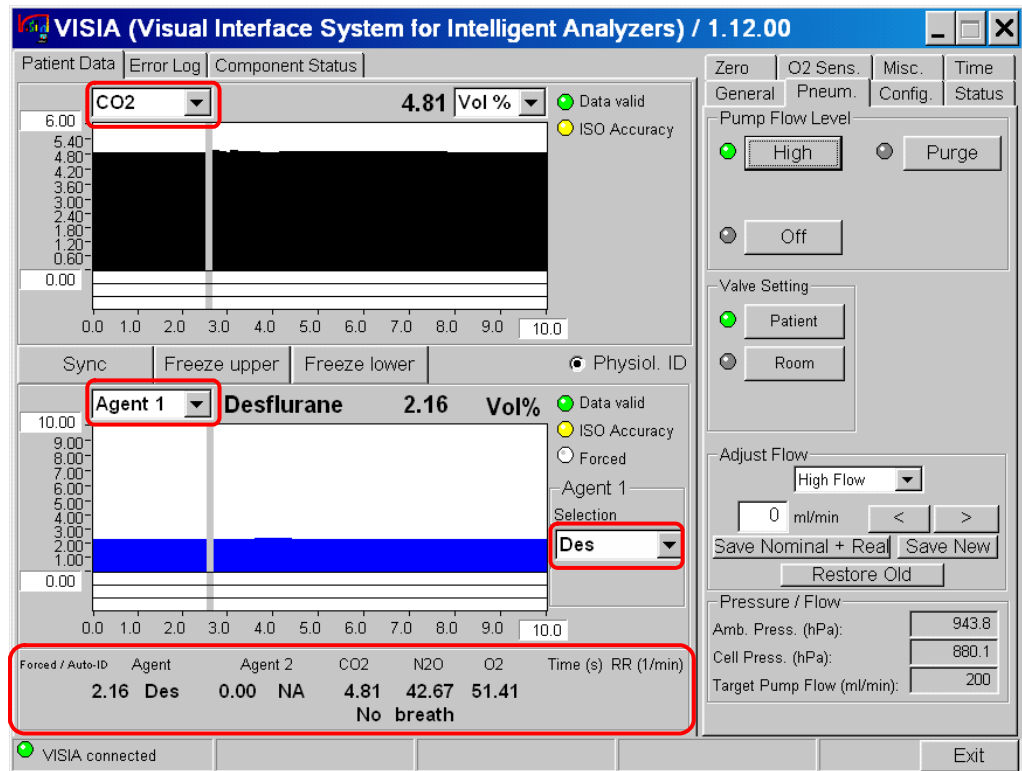

Figure 13 Patient Data Window during Gas Calibration Test
The gas analyzer should run for at least 6 minutes until the Data soft-LED in the Patient Data reads *Data Valid* before continuing with the following calibration procedures. This is to allow the module to reach ISO accuracy (see Figure 13). Use the M2211A Flow Regulator when performing the gas calibration test. Refer to the instruction sheet provided with the flow regulator for detailed instructions for use.
- 2 Select the Patient Data Tab in the VISIA tool so that you can see the waveforms (see Figure 13).
- 3 Set the upper Gas section to CO_2 (make sure the unit is set to Vol%) and the lower Gas section to *Agent 1* (see Figure 13).
- 9 Wait until the two gas concentration curves are completely flat as shown in Figure 13.